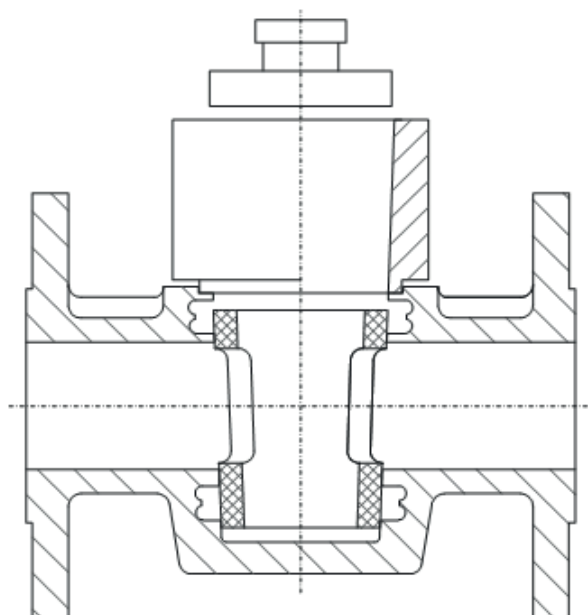

Fig. 3
4. Re-Install Sleeve (fig. 3 + 4)
Heat covered sleeve to 90° C for 30 min. Mount charging ring on cover center bore. Install uncovered sleeve slightly offset into charging ring so that sleeve can fit to the vertical ribs. Press sleeve to bottom by means of contact pieces under the ribs on upper port of the body (fig. 3 + 4).